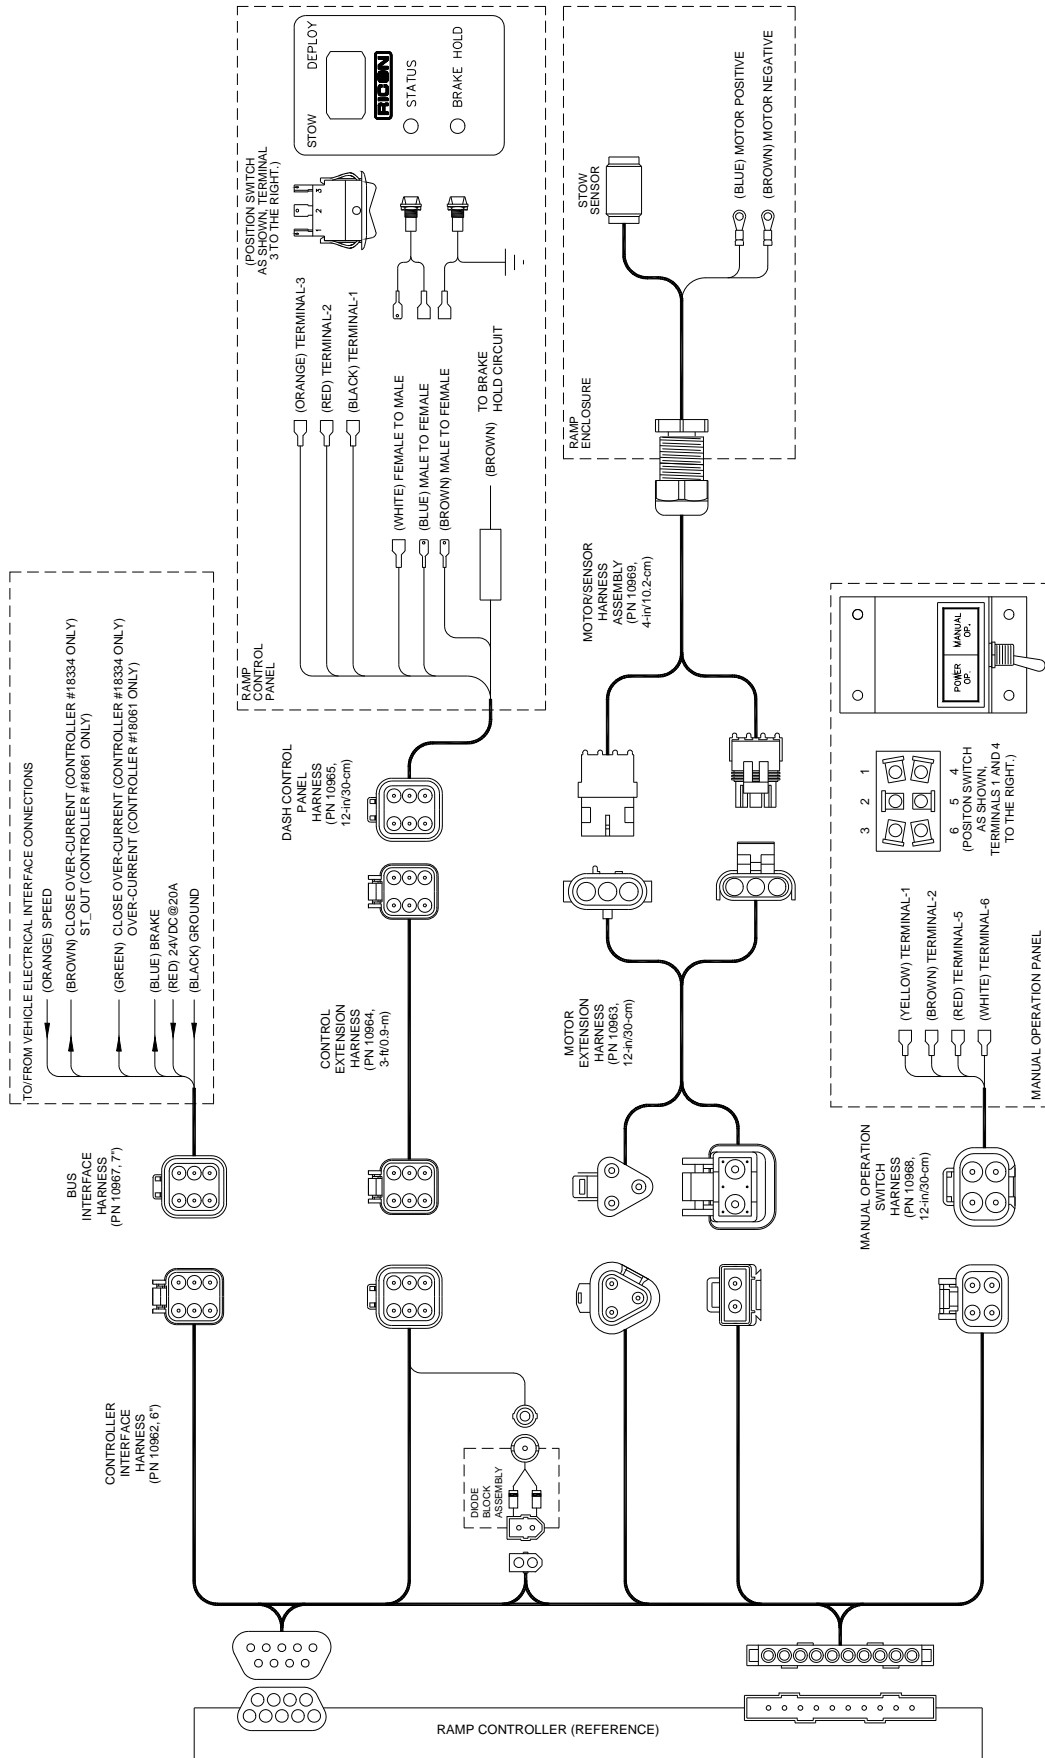

FIGURE 2-5: ELECTRICAL INTERCONNECT DIAGRAM
b. Refer to Figures 2-5 & 2-6. At controller, connect controller interface harness.